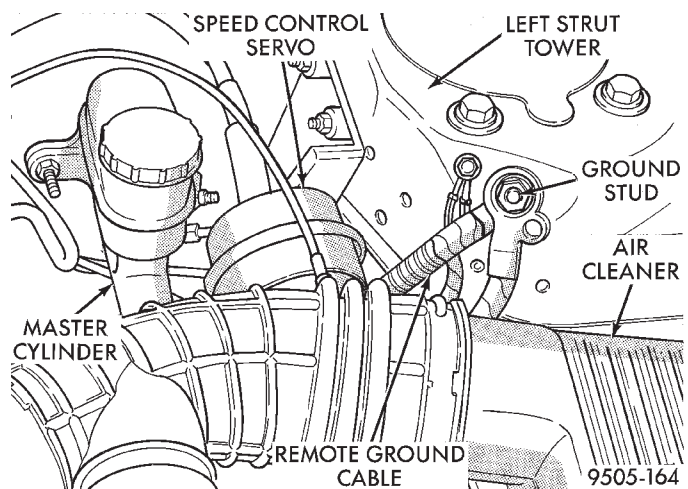

Fig. 10 Remote Ground Cable Attachment To Strut Tower
(1) Remove the remote ground cable from the ground stud located on the left strut tower (Fig. 10).
(11) Install the remote ground cable onto the ground stud located on left shock tower (Fig. 10). Install the remote ground cable attaching nut and tighten to a torque of 28 N·m (250 in. lbs.).
(12) Bleed the base brakes and the ABS brakes hydraulic system. Refer to the Bleeding ABS System in this section of the manual for the proper bleeding procedure.
(13) Road test vehicle to ensure proper operation of the base and ABS systems.